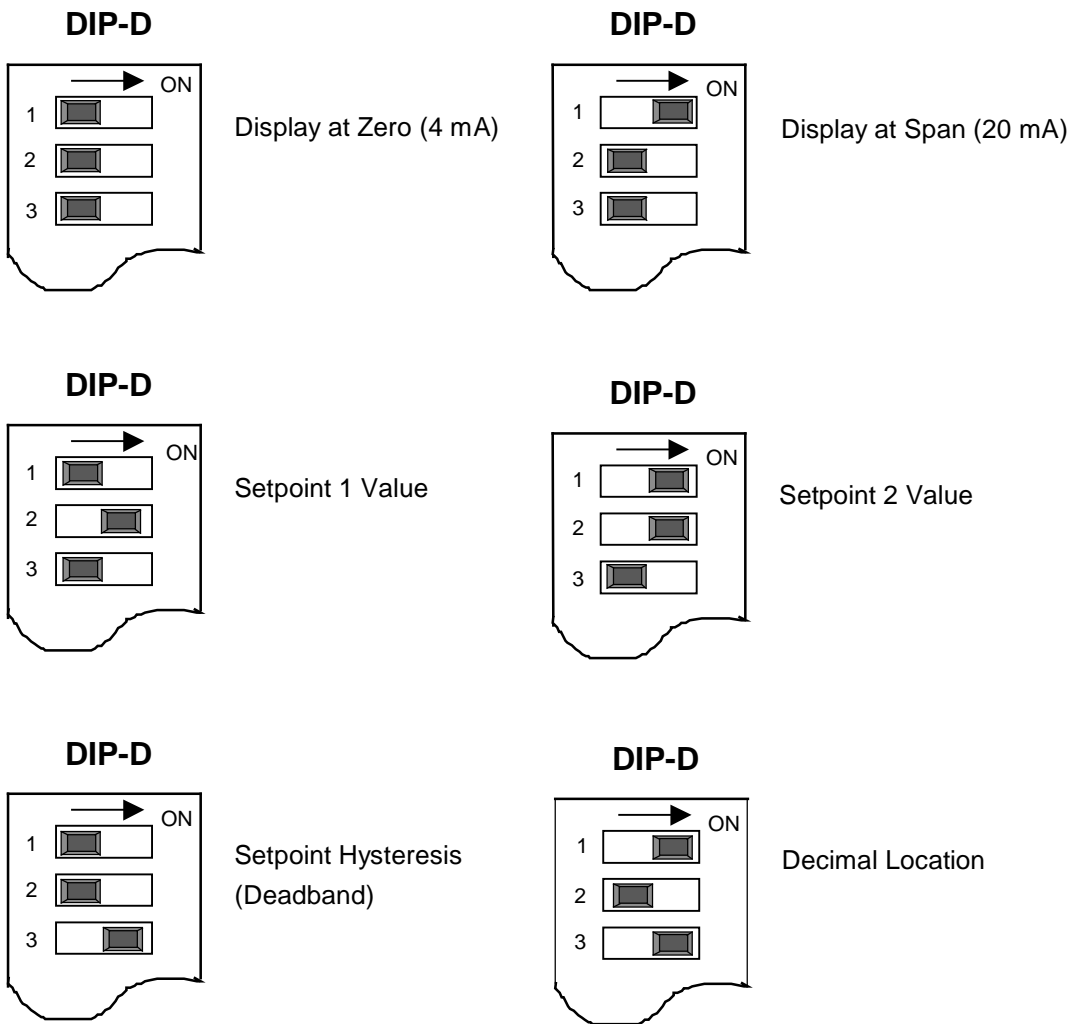

Figure 6 - DIP-D Edit Item Addresses
A) Set DIP-D-1 through DIP-D-3 to the address for the edit item to be configured. See following Figure 6 for addressing details.